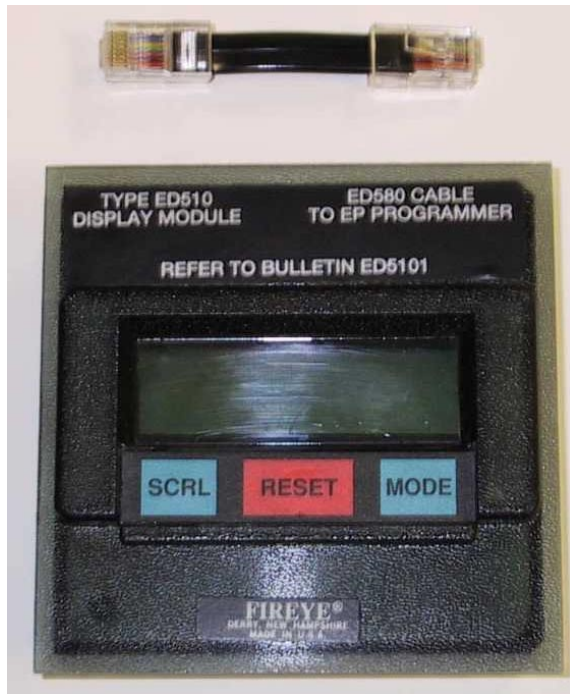

Fig. 69 Flame Monitor Display Module, part no. ED510 with connector cable part no. ED580-1
A key feature of the Flame Monitor system is its diagnostics capabilities. Current operating status and safety lockout information are displayed on the alphanumeric display module, part no. ED510, shown in figure 69.
- Module connects to EP, EPD style modules, or Micro M control, via standard RJ style connector (see figure 69).